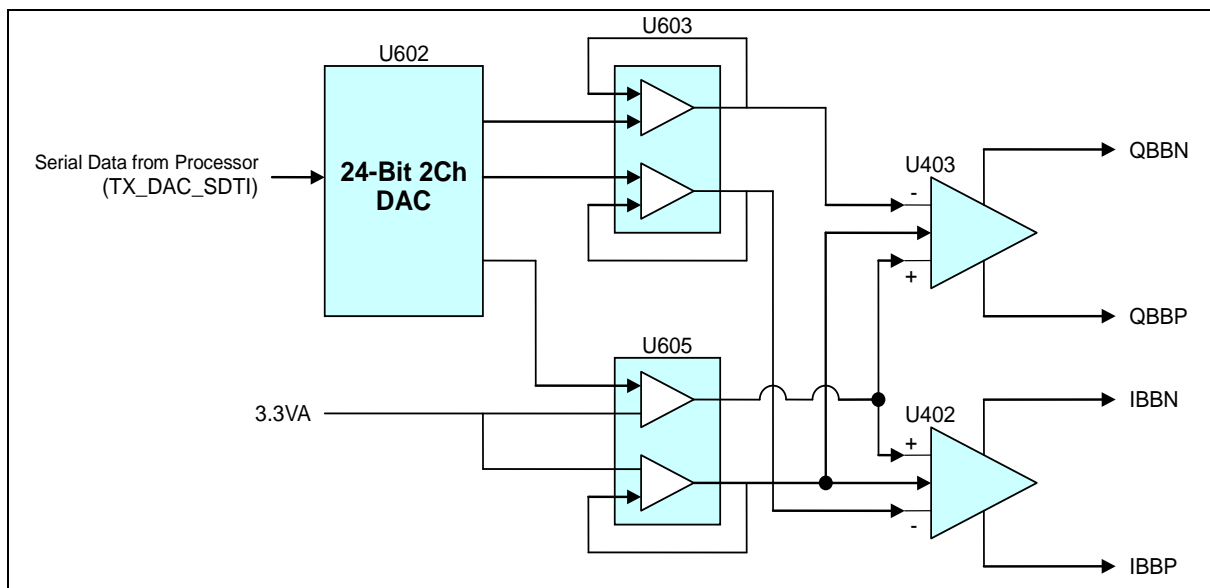
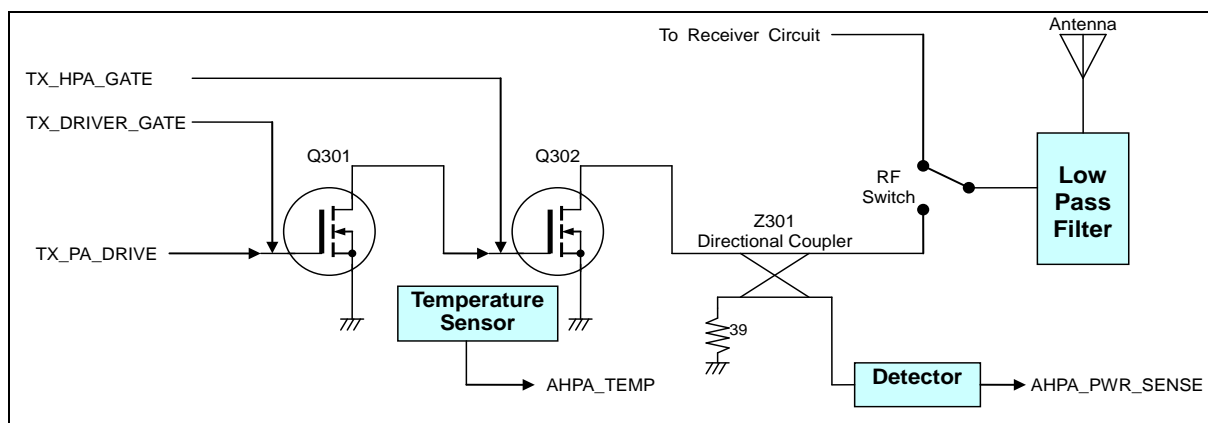

Figure 9-6: TX CODEC and Modulator Interface Block Diagram
Figure 9-9: HPA Block Diagram
The high performance sigma-delta dual channel digital to analog converter (DAC) U602 converts the serial data from the processor into two analog modulating signals. These signals are complex; and consist of in-phase (I) and quadrature (Q) components. These I/Q signals are each individually fed into dual input, differential amplifiers (U603) to low pass filter the DAC output as shown in Figure 9-6.
The HPA uses MOSFET transistors (Q301 and Q302), as shown in Figure 9-9, which are capable of producing in excess of 4.5 watts output. The RF power N-MOS Q301 is the driver stage of the HPA. The power stage of the HPA has two RF power N-MOS transistors Q302 in the final stage.
As shown in Figure 9-9, the temperature sensor monitors the heat generated by the HPA and the radio in general. The output from the sensor signal AHPA_TEMP is sent to the ADC U705 in the APC circuit. The Dual Core Processor (U600) monitors the output voltage from the ADC.
When properly enabled, the DAC sends the TX_ARM and TX_EN signals to the HPA Power Regulation and Temperature Sensor Circuit. In addition, the DAC also enables the HPA by routing signals through the differential amplifiers U301 and sending the TX_DRIVER_GATE and TX_HPA_GATE signals to the HPA as shown in Figure 9-9.
A small amount of transmit energy is sampled by the directional coupler Z301. This signal is detected the detector circuit (CR302) as shown in Figure 9-9. The output signal (AHPA_PWR_SENSE) is processed by the 12 bit ADC (U705) and the Dual Core Processor (U600) compares the output voltage from the power detector to its programmed set point. If necessary, the Dual Core Processor generates an error value to adjust the output power level by writing to the one channel of the two channel 12-bit DAC U510. U510 generates the control signal (TX_APC_CTRL_D) that adjusts the gain of U407 (see Figure 9-6). This enables the radio to maintain the desired transmit output power.